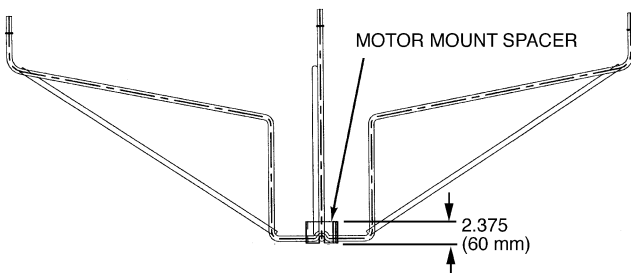

Fig. 2 — Motor Mount Spacer Location
5. Replace the existing motor mount spacer (see Fig. 2) with motor mount spacer provided in the accessory package.